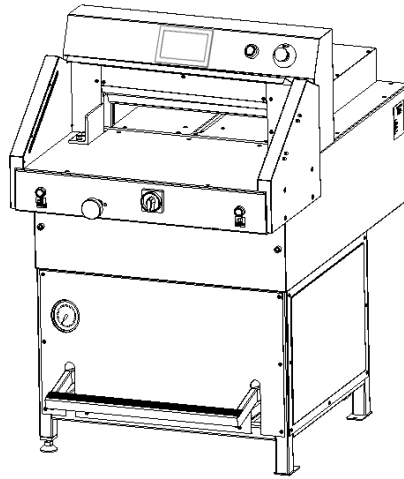

Figure 6a. Cutter without side tables
- completely assembled and ready for use (Fig. 6a).